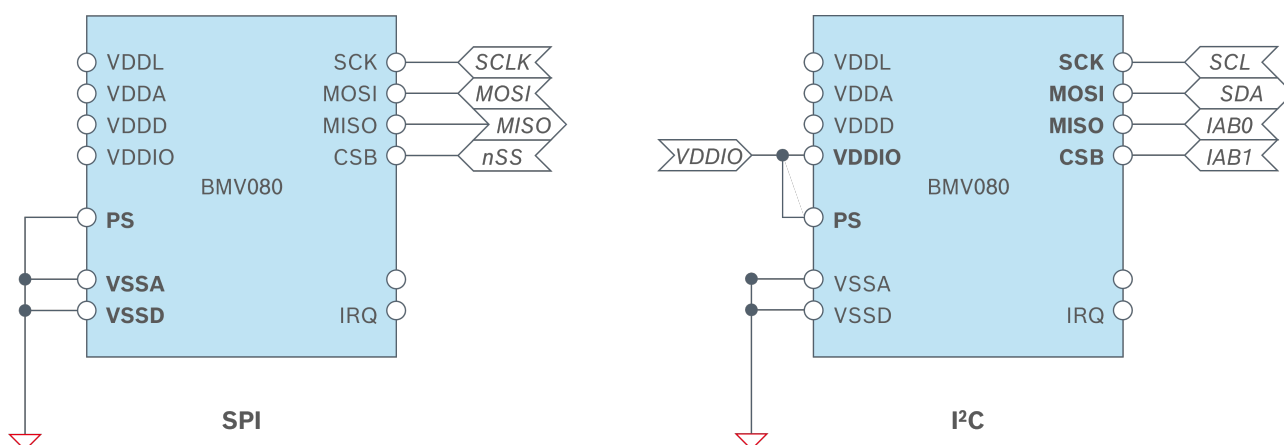

Figure 25: Different configurations for protocol selection (SPI / I²C)
The protocol select (PS) pin is a logic input to configure the type serial interface, SPI, or I²C. Figure 25 shows how the PS pin can be connected to select the SPI or the I²C protocol. The SPI protocol is selected when this pin is connected to a logic low (VSSD). If this pin is connected to a logic high (VDDIO), the I²C protocol is selected. If this pin is not connected (not recommended), the I²C protocol is selected. The pin state is latched during power-up by the digital core.